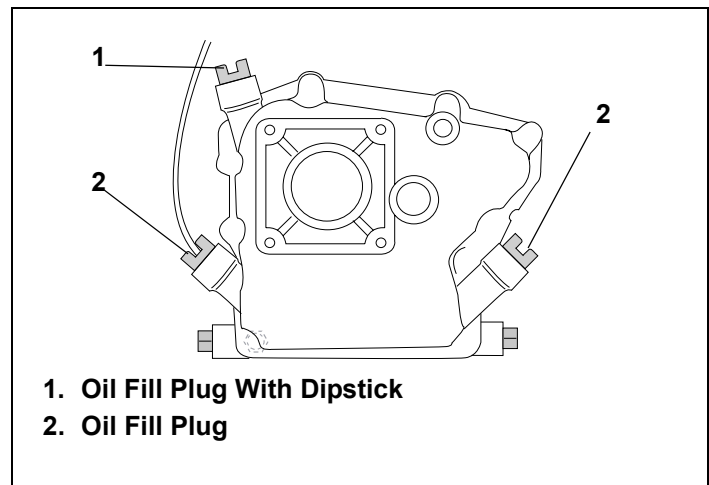

Figure 9. Other Possible Oil Fill Locations
Some engine models feature an oil fill plug with an attached dipstick. See Figure 9.
2. Clean area around oil fill plug. See Figure 9.